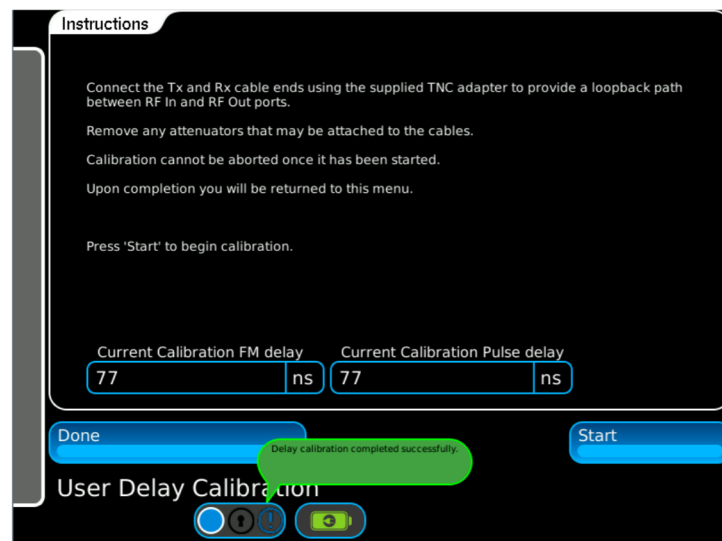

Figure 1-5 Delay Calibration Screen
8. On the **Delay Calibration** screen, press the **Start** button to start the delay calibration. See Figure 1-5.